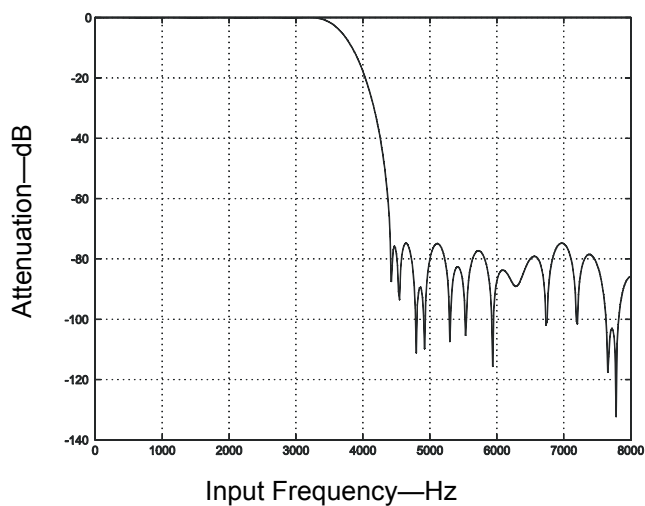

Figure 2. FIR Receive Filter Response
**Note:** Typical FIR filter characteristics for  $F_s = 8000$  Hz are shown in Figures 2, 3, 4, and 5.
For Figures 2–5, all filter plots apply to a sample rate of  $F_s = 8$  kHz. The filters scale with the sample rate as follows: